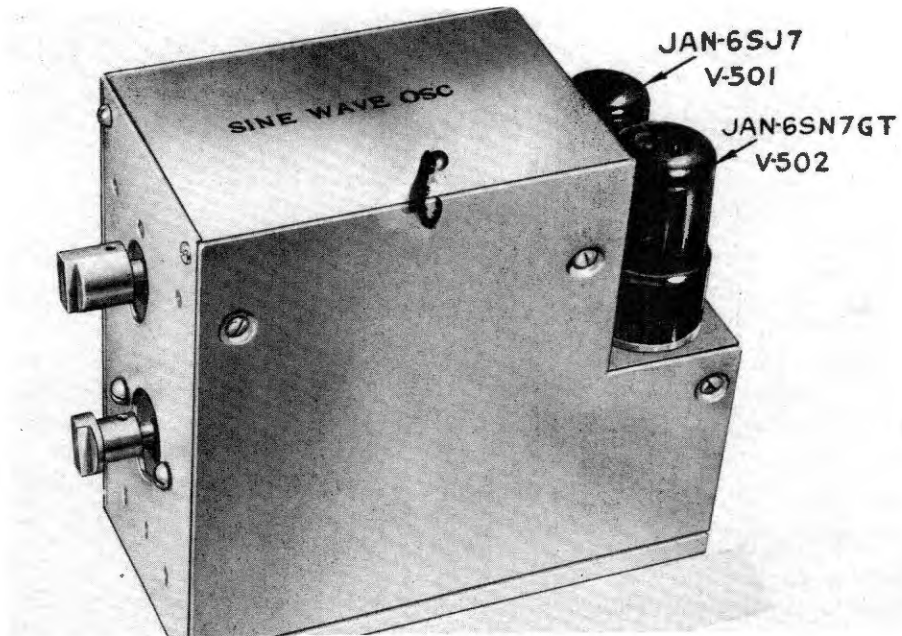

Figure 1-8. Sine Wave Oscillator O-34/APA-11—Outside View
(5) The sine wave oscillator is a two-tube unit. It provides a means for determining the pulse repetition frequency of radar installations. (See figure 1-8.) Connecting plugs are on the bottom.